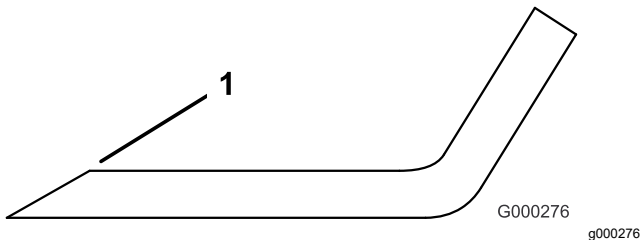

Figure 76
1. Use a file to sharpen the cutting edge at both ends of the blade (Figure 76).
**Note:** If the blade is not balanced, file some metal off the end of the sail area only (Figure 76).